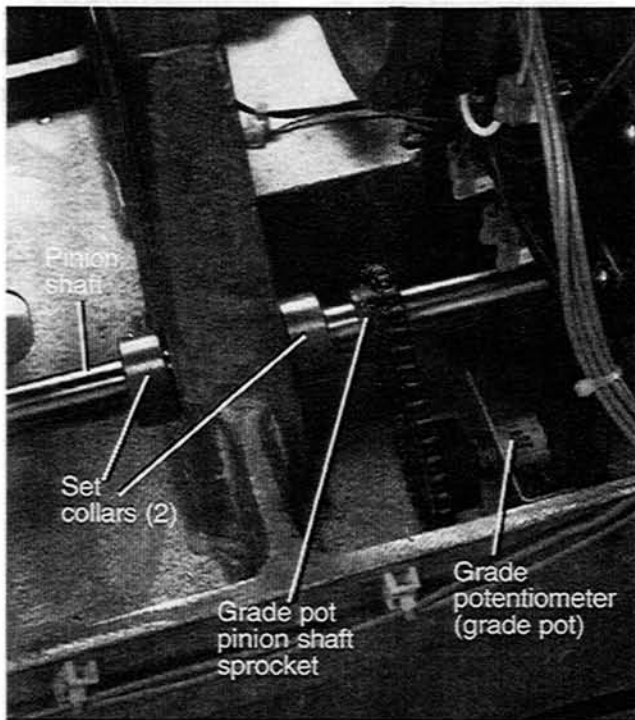

Figure 3-32. Grade Pot
Calibrate the grade pot whenever specified in the procedures in this Section. Figure 3-32 shows the location of the pot.
5. Loosen the setscrew which secures the grade pot sprocket to the pinion shaft (Figure 3-32).